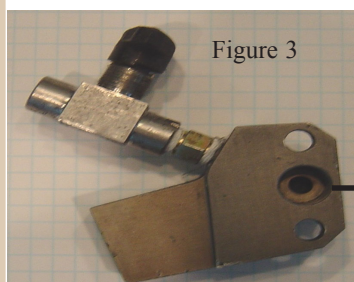

Figure 3
Clean the threads good so there won't be a problem cross threading when you install the nut assembly. You should also check for any cracks at the top of the threaded opening on both the A & B-Side blocks figure 3. Do not clamp either block in a vice this will distort the side blocks causing sealing and surface matching problems.
There are 6 parts in the P2 A & B-Side screen assembly figure 3
The Probler P2 Gun screen assembly may look a little different but the same principle applies for material flow. The material flows in through the screen on the outside of the housing as shown in figure 3 item 4. The material then flows through the 12 side holes on the side of the screen/filter housing and out through the end hole figure 4. Neither the Standard Probler or Probler P2 guns are hard to work on but if they are not maintained and cleaned properly it can create down time and added costs not to mention frustration. Keep in mind these guns are tools of the bedliner business.